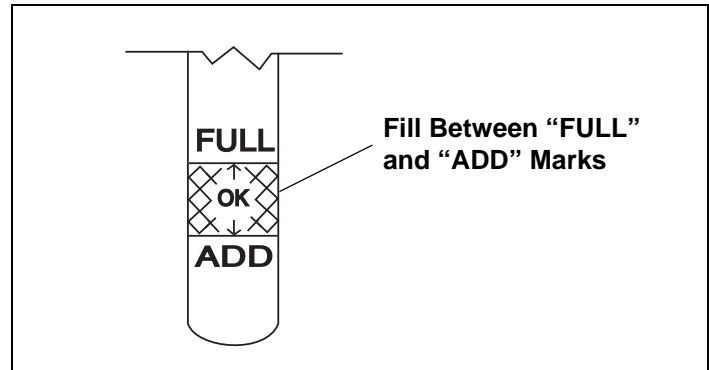

Figure 7. Engine Oil Level
- Keep oil level between "FULL" and "ADD" marks on dipstick. See Figure 7.
4. Unscrew and remove oil fill cap or oil fill plug from oil filler tube. Note oil level. If oil reading on dipstick is below "ADD" mark, slowly add oil to reach "FULL" level. See Figure 7 on page 4. Afterward, continue reading instructions below.